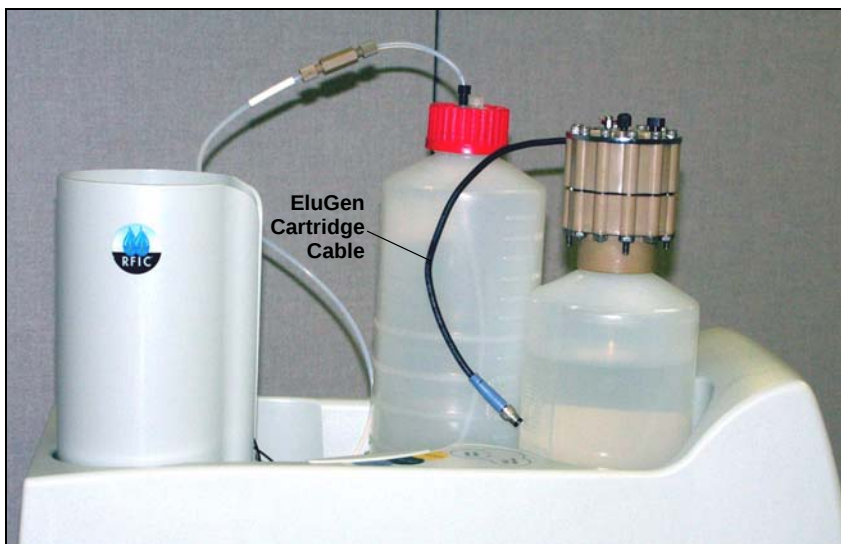

Figure 5-36. EluGen Cartridge in Service Area
12. Set the EluGen cartridge in the service area on top of the ICS-2000 and orient it with the cable toward the EGC holder (see Figure 5-36).